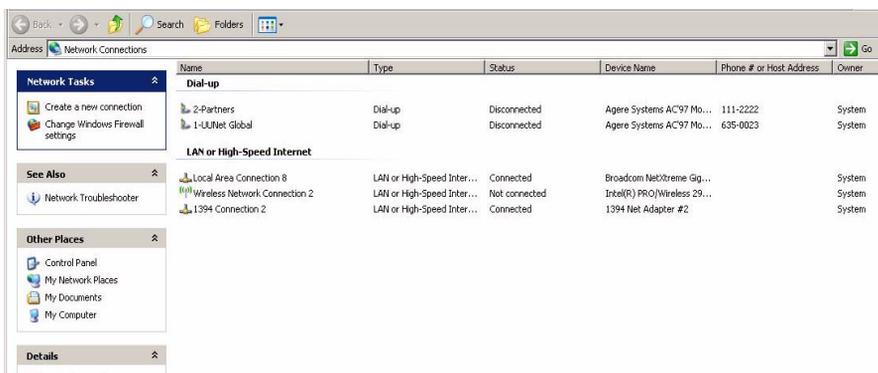

Figure 28 Network Connections Dialog Box (Windows XP, details view)
- 1 Open the '**Network Connections**' dialog from the Windows Control Panel. You can also open this dialog from the *Start > Run* box by opening '**ncpa.cpl**'. See Figure 28 below.